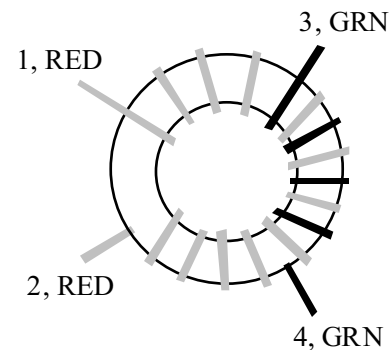

Figure 8-4
- T3 is wound on an FT37-43 core (dark gray), the smaller of the two cores remaining. Start with the 1-2 winding, which uses 12 turns of red enamel wire (9", 22 cm). See Figure 8-4.
- T3's 3-4 winding uses 4 turns of green enamel wire (6", 16 cm). The turns of the 3-4 winding must be tightly interlaced with the 1-2 winding as shown in Figure 8-4.